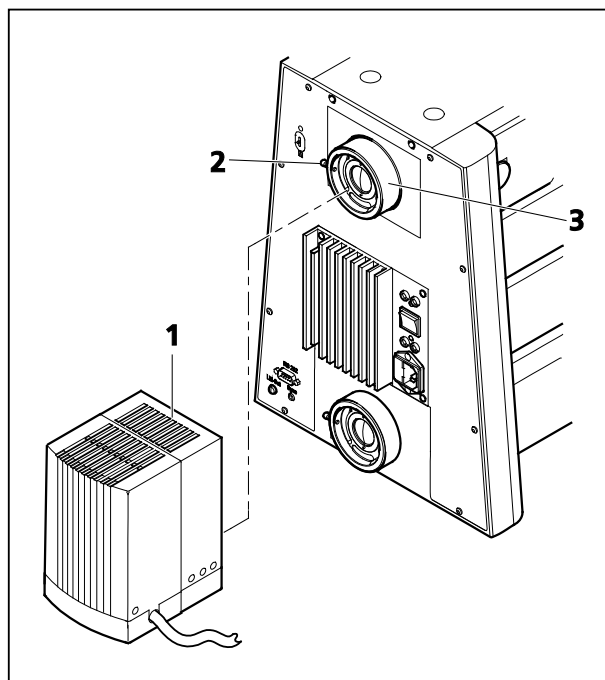

Fig. 53 Attaching the HBO 100 illuminator
- Remove the cover from the reflected-light socket (Fig. 53/3).
- Insert the dovetail of the lamp housing (Fig. 53/1) into the reflected-light socket (Fig. 53/3) on the back of the instrument and tighten the clamping screw (Fig. 53/2) using a SW 3 ball-headed screwdriver.